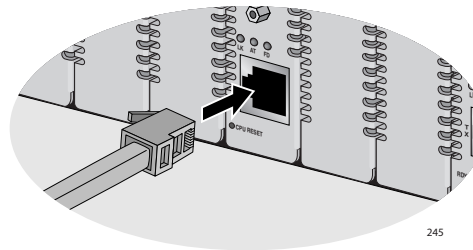

Figure 47. Connecting a Twisted Pair Cable to the 10/100Base-TX Port on the AT-CV5M01 Management Card
1. Connect a twisted pair cable to the 10/100Base-TX port on the front of the AT-CV5M01 Management Card, as shown in Figure 47.